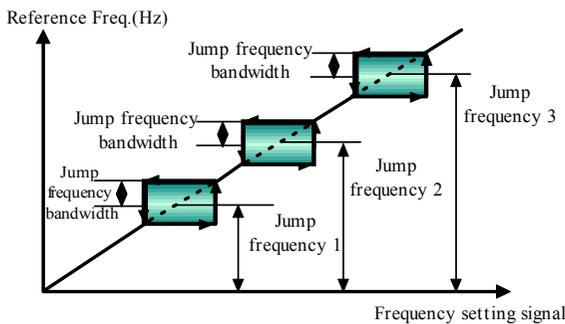

Fig. 5-2-5 Jump Frequency
- ◆ To avoid mechanical resonant, the inverter can skip round some running points, which is called Jump frequency. As shown in Fig. 5-2-5.